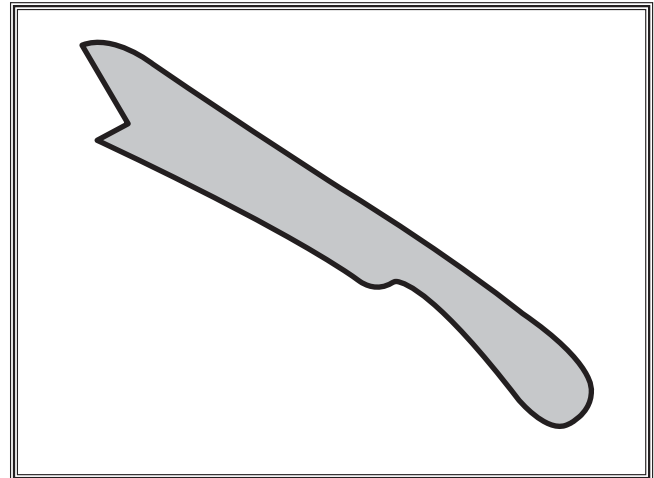

Figure 74. Illustration of a simple push stick.
- **Push Sticks** made from the shop are very popular among table saw owners because they are inexpensive and easy to make. Particularly good are those that keep your hand a safe distance away from the blade, offer stable support and grip, and are comfortable in the hand. **Figure 74** shows an illustration of a simple push stick.